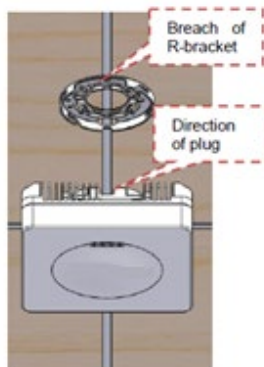
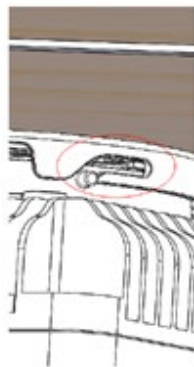
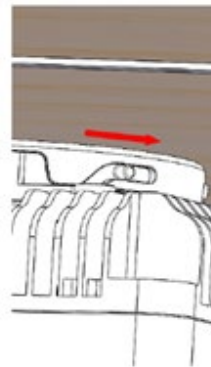

Figure 3-17
Figure 3-18
Figure 3-19
Step 2. Connect the power cable and the fiber cable onto the IRU-O module. Align breach of bracket with direction of plug (Figure 3-17). and ensure that the attachment plate is fully inserted into the bracket (Figure 3-18). Rotate clockwise and hear the spring snapping (Figure 3-19). Ensure that the IRU-O module is properly installed.